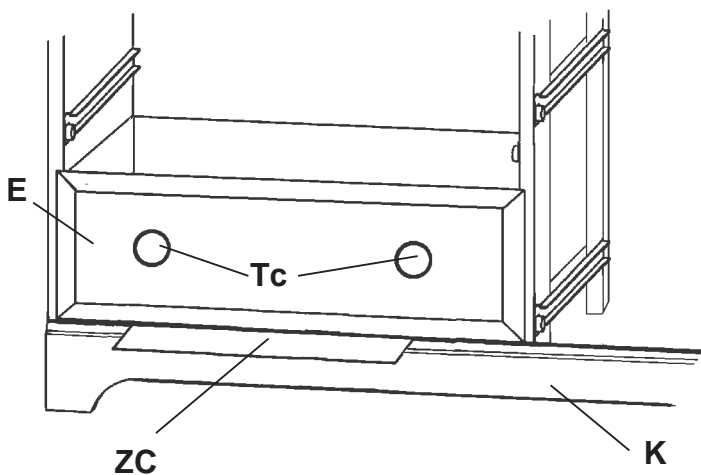

Fig. 10
10. Insert the left bottom drawer in the unit. Make sure that the Knobs (Tc) are loose enough to allow the Drawer Face to move freely on the Drawer False Front. Adjust the Drawer Face (E) on the Drawer False Front (C) so that it is centered side to side, and by using the Spacer (ZC), it extends 1/8" above the top of the Base (K). See Figure 10. Tighten the Knobs (Tc). Insert four #8 x 7/8" Black Lo-Profile Screws (Sd) through the holes in the Drawer False Front (C) and fasten securely. See Figure 10a. Repeat for the bottom right drawer.